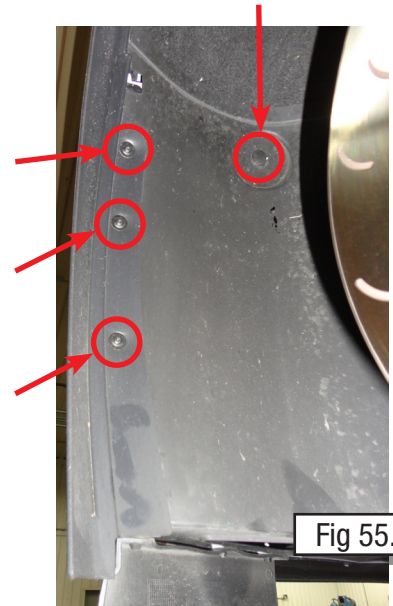

Fig 55.
62. Install three T-15 Torx bolts at the edge of the inner fenders and the one T-15 Torx bolt holding the brake duct to the inner fender (Figs. 55 & 56). The plastic clip should also be installed to the inner fender.